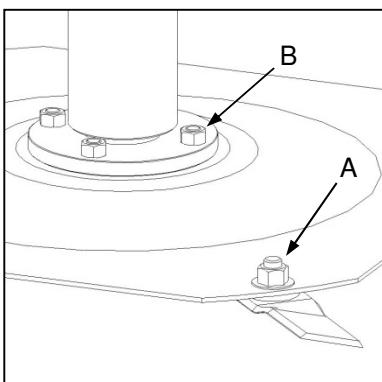
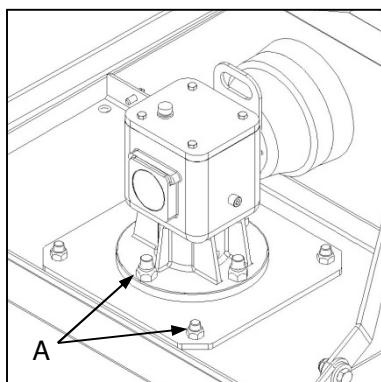
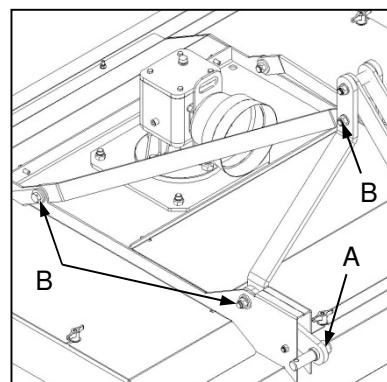

Fig. 1
Fig. 2 (F210 TurfPro)
Fig. 3 (F210 TurfPro)
- ✓ Check all fasteners for tightness. This includes special attention to safety-critical fasteners such as blade bolts and nuts (Fig. 1-A), cutting gear mounting bolts (Fig. 1-B), gearbox mounting bolts (Fig. 2-A), hitch points (Fig. 3-A) and mast retaining bolts (Fig. 3-B).
- Verseker dat alle hegstukske vas is. Dit sluit in spesiale aandag aan veiligheidskritieke hegstukske soos lemboute en -moere (Fig. 1-A), snymeganisme monterboute (Fig. 1-B), ratkas monterboute (Fig. 2-A), haakpunte (Fig. 3-A) en masklemboute (Fig. 3-B).